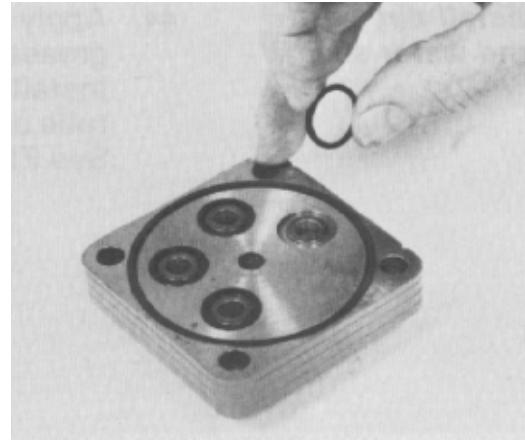

Figure 124
42. Apply clean multi-purpose grease to the four o-rings and seal ring. Put the new o-rings and seal ring into their proper location in the port cover (Fig. 124).